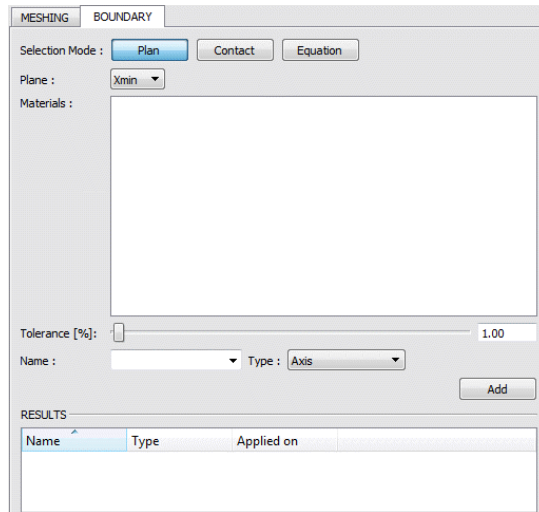

Figure 20.3: The Boundary Tab
- **A Boundary tab:** This is where boundary conditions are assigned to the mesh. Various tools let you select the elements (triangles) which are part of a given boundary condition group (given name and ID). This tab is available only if the selected file format allows exporting boundary conditions (Figure 20.3).